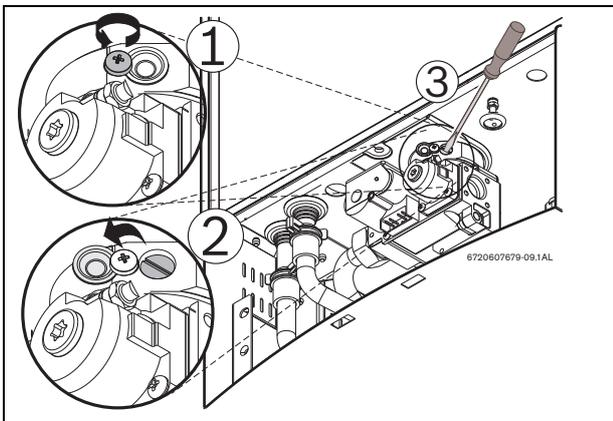

Fig. 17 Adjusting P1 CO₂ level
- ▶ Loosen yellow painted philips screw (1) and cover should rotate down (2) revealing a recessed brass slotted screw. Fig. 17.